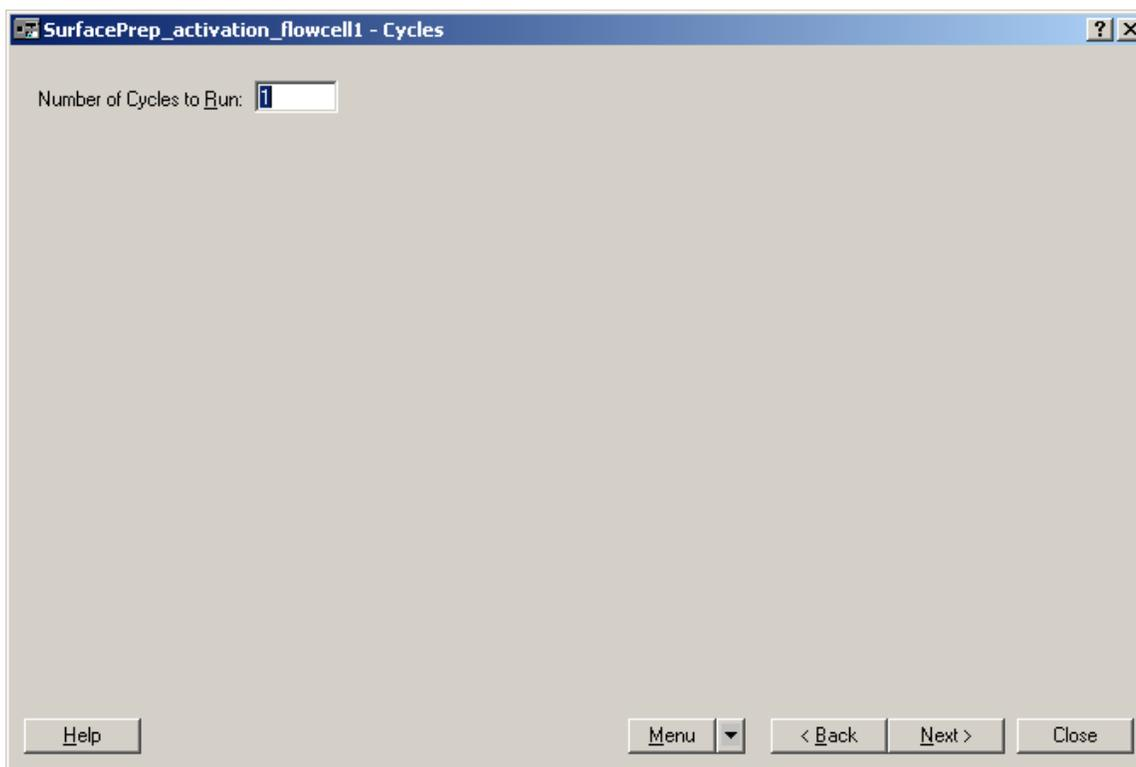

Figure 2.12
2.15.1 Number of cycles to be run should be set to 1 (Fig 2.12)